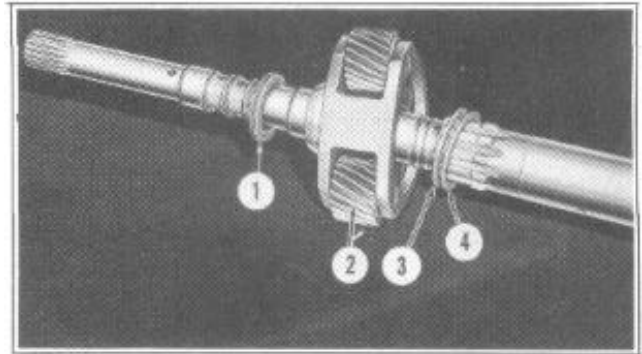

FIGURE 110
23. Remove the seal retainer (1), Figure 110, rear planetary carrier (2) and the rear
**NOTE :** Beginning with transmission serial No. HA-5704, the rear planet carrier has been counterbored in the inside front face. The counterbored carrier with the new rear planet carrier washer (3), Figure 110, can be used as a replacement for the carrier without the counterbore.